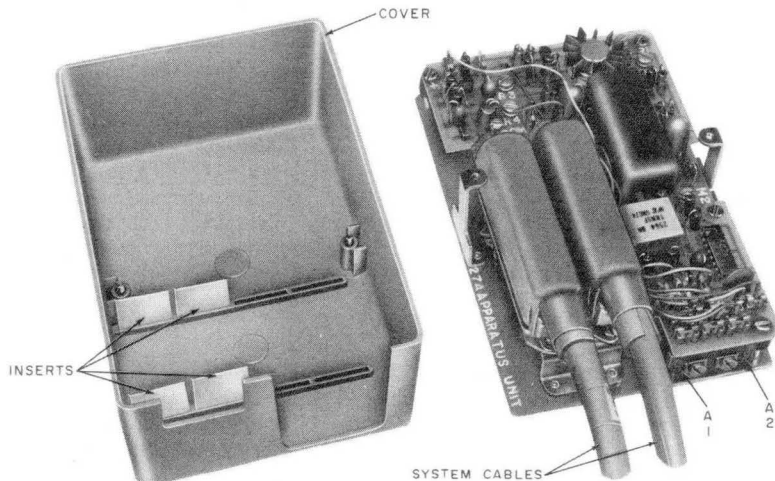
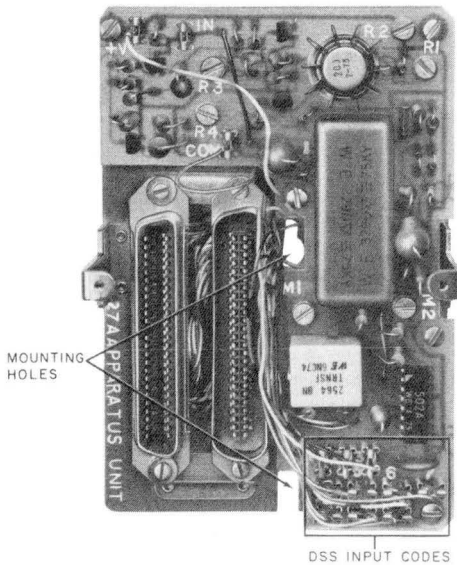

Fig. 20—¶27A Apparatus Unit With L-769856 Cover¶
Fig. 21—327A Apparatus Unit
- (1) Remove the cover and mount the base pan assembly (Fig. 20 and 21) in the desired location (use appropriate fasteners per BSP 080-720-103).
- (2) If background music is to be provided, install the 33A voice coupler per 3.14(b).
- (2) If music is provided, connect screw terminals 5 and 6 of the 33A voice coupler to screw terminals M1 and M2 (Fig. 21).
- (3) If the customer's paging system requires a contact closure when the paging occurs, connect the coil circuit of a KS-16626 L12 relay set per BSP 463-120-100 to screw terminals R1 and R2 of the 27A. Also connect a shorting strap between screw terminals R3 and R4.
- (4) Insert system cable or cables (Fig. 20).
- (5) Position inserts (Fig. 20) inside cover to hold cables securely when cover is replaced.